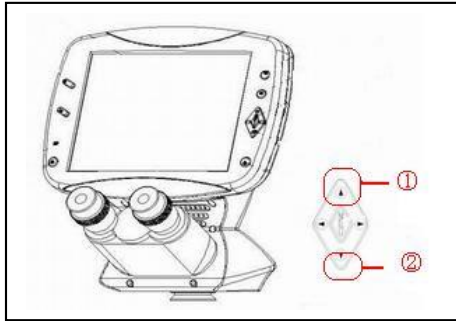
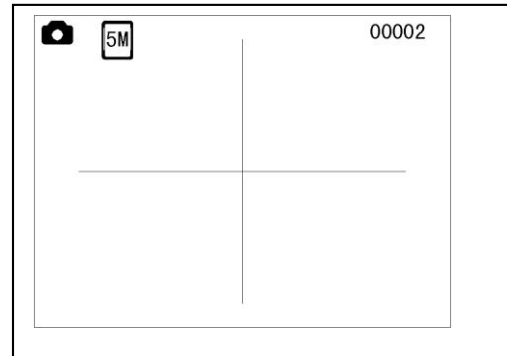
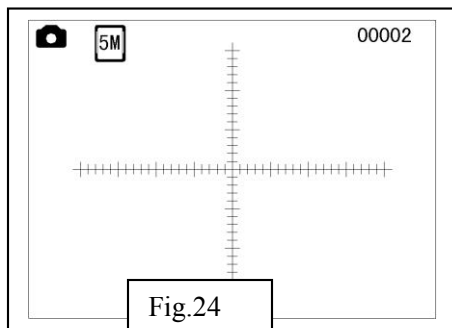

Fig.22
Fig.23
Fig.24
On snap model, you can press the up key of the menu  button (Fig.22 ①) to select self-definition graphics, including the crossing line and reticle with crossing line. The graphics is display on the LCD screen to carrying out simple locating and measurement
Press the up key one time, the cross hair will be showed on the LCD screen (Fig.23). Then press the down key of the menu  button (Fig.22.②), there are 5 colors available (green, blue, black, white and red). It used to select among colors of the self-definition graphics, facilitating the clear indication under different color materials
If you press up key (Fig.22①) two time, the reticle will be showed on the LCD screen (Fig.24)
Then, press the up key (Fig.22 ①) once again on the Fig.24, the cross hair will disappear.